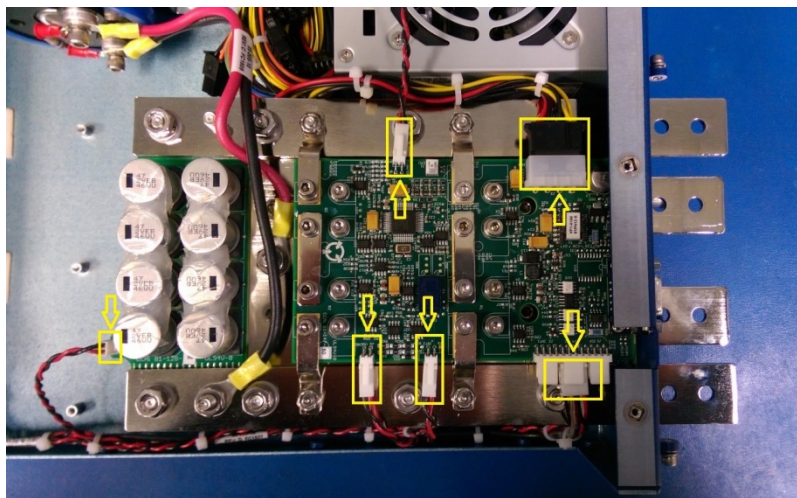

Figure 3: Disconnect 6 connectors.
- Disconnect the 6 connectors from the board. See Figure 3 below.
17. Reconnect the 6 connectors to the board. See Figure 3. All connectors should be labeled.